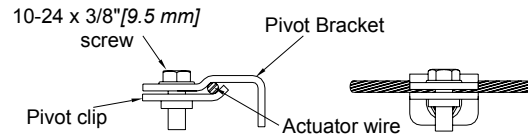

Figure 50. Clamping to actuator wire
2. Using the first pan away from the actuator, push the inner cone to the open position. Place the actuator wire between the pivot bracket and pivot clip then tighten the 10-24 screw, **see figure 50.**